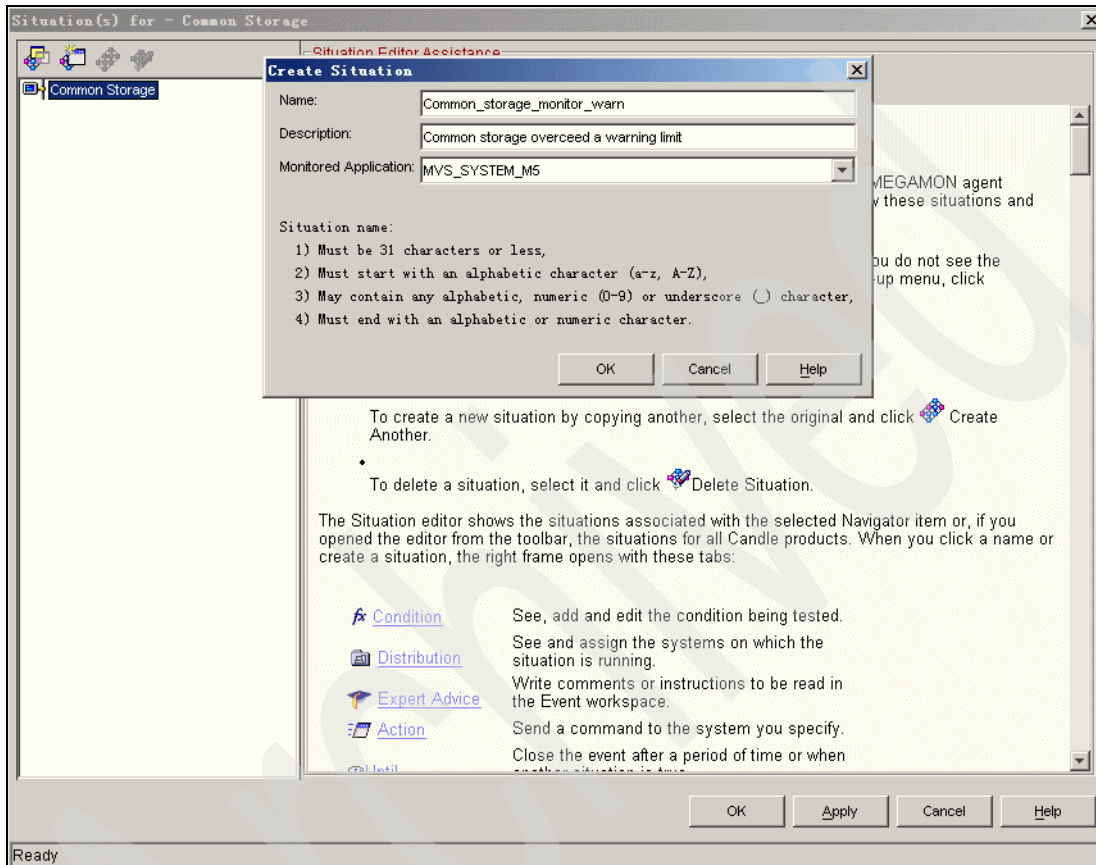

Figure 6-21 Create situation to monitor common storage - new situation
2. In the Situation editor,  creates a new situation. Type a name and description for the situation, for example, Common\_storage\_monitor\_warn as shown in Figure 6-21.